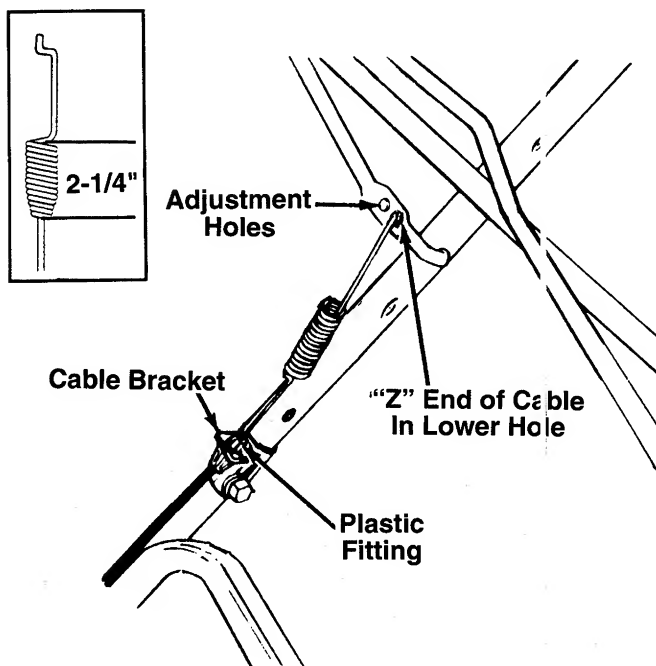

FIGURE 5.
1. The drive clutch cable is attached to the drive cover, and has a spring on one end. Route the cable above the lower handle. Hook the spring on the end of the cable into the lower hole on the drive clutch handle from the inside out as shown in figure 5.
1. Engage the drive clutch control handle (squeeze handle against the upper handle). Measure the spring on the drive clutch cable. It should measure approximately 2-1/4 inches long as shown in figure 5, inset. (Use the ruler on the bottom of page 4 to measure.)